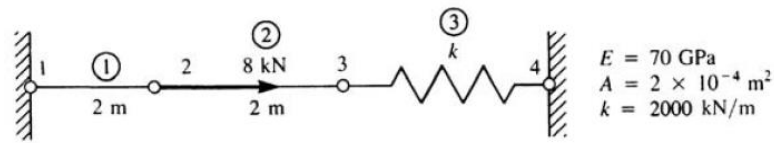

Figure 3
- 2A. For bar and spring the in Figure 3, determine the nodal displacements and slopes, the forces in each element, and the reactions. Use the direct stiffness method for these problems. (05)